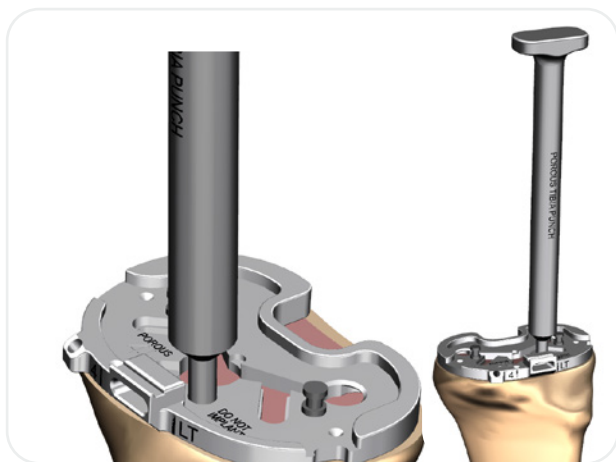

Figure 40
2. Impact the porous tibia punch into the anterolateral keel peg hole until a positive stop is achieved (**Figure 40**).